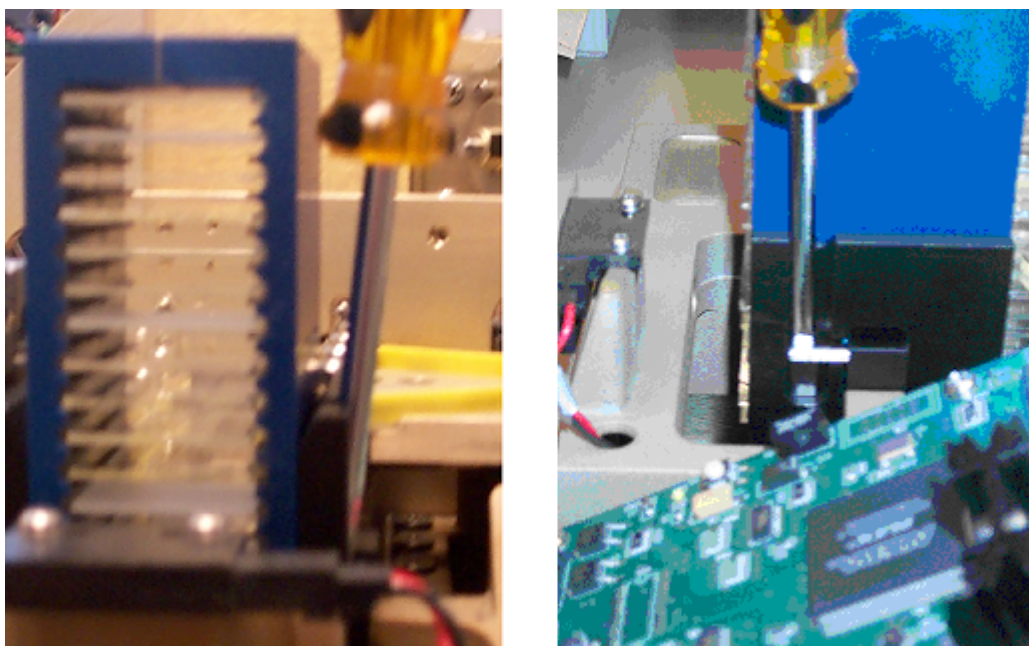

Figure 4 *Cassette Release Mechanism*
3. To unlock the cassette, insert a screwdriver (or similar device) in the release mechanism as shown in Figure 4.